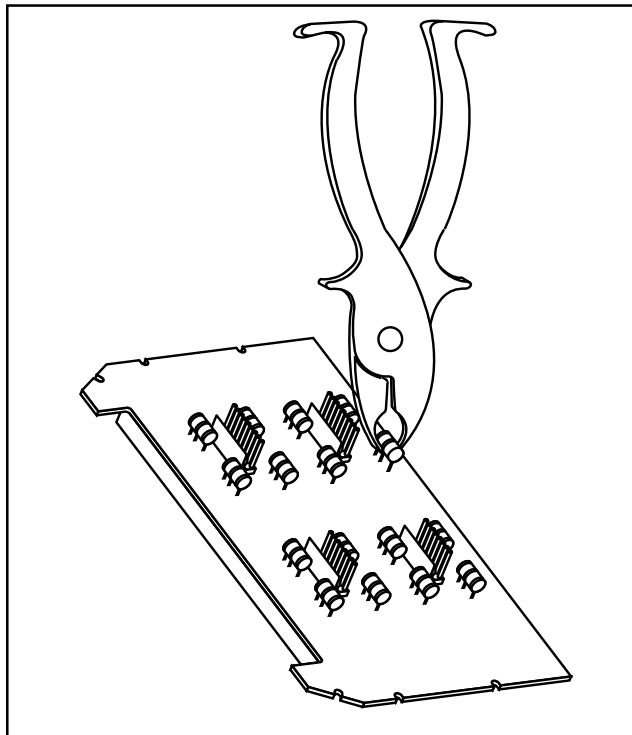

Figure 9. Replacing Surge Arrestors
If lightning is the suspected cause of circuit pack failure, ADTRAN recommends replacing all surge arrestors within the Repeater Housing. Figure 9 shows the surge arrestors on the bottom of the circuit pack support structure.
- E. Grasp one surge arrestor and remove it using the Insertion/Extraction Tool; see Figure 9.